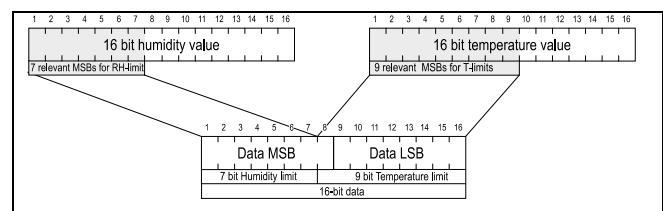

Figure 2 Relevant Bits for the limits
The sensor stores the limit information in a reduced data format. The standard data format of SHT3x-DIS has a width of 16 bits. For the limits only the most significant bits (MSB) are used to determine whether an alert has been met (7 bits for humidity and 9 bits for temperature), see Figure 2.
The reduced data format is shown in Figure 2.
5. Combine the reduced values (step 3 and 4) according to **Figure 2**